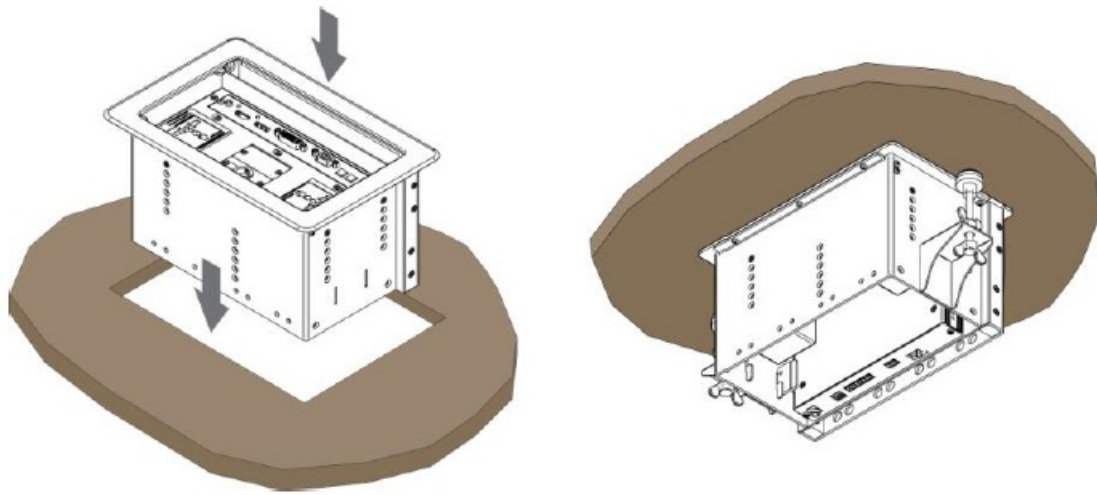

Figure 10: Inserting TBUS-10xl into the Prepared Opening
2. Carefully insert the unit into the prepared opening (see Figure 10).
5. Tighten both mounting butterfly screws upward until they reach the table surface (from underneath). Tighten firmly (see Figure 10).